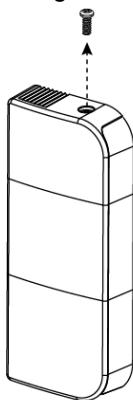
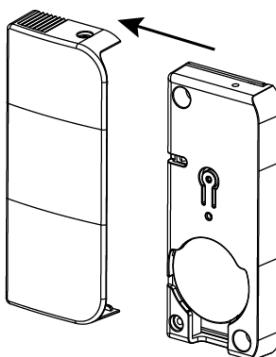

FIG. 2
FIG. 3
Step 1. Remove the top retaining screw (FIG. 2). Slide the cover to the left to open it (FIG. 3).